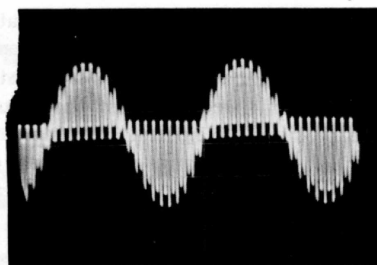

Figure 19. Trace Showing Proper Adjustment of C-10. 19 Kc Signal Is 10% of Entire Composite Signal
3. Adjust trimmer capacitor C-10 so that the 19 kc subcarrier is 10% of the entire composite signal. See Figure 19.
1. Connect the oscilloscope to the COMP SIG/AUDIO cable. Set the FUNCTION switch to "STEREO LEFT", S-4 to "NORMAL", and the FREQUENCY switch to "1000 cps". Adjust the 19 KC SUBCARRIER LEVEL control so that the 19 kc portion of the composite stereo waveform is 10% of the total peak-to-peak amplitude. See Figure 19. Do not change the setting of this control in the following steps.